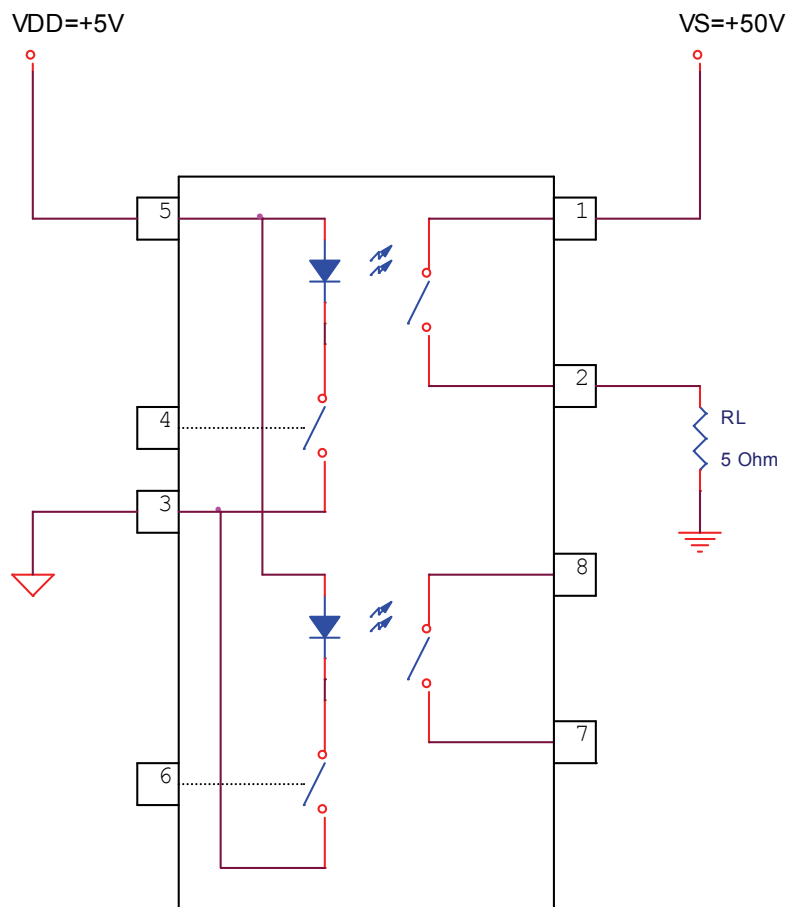

Fig 3. Switching Test Circuit (Only one Channel shown)
- ① Specification is guaranteed by design.
- ② Rise and fall time are controlled internally.
- ③ Inputs protected by $V_{IN} < 1.0V$ and $V_{IN} > 7.0V$.
- ④ Optically coupled Solid State Relays (SSRs) have relatively slow turn on and turn off times. Care must be taken to ensure that transient currents do not cause a violation of SOA. If transient conditions are present, IR HiRel recommends a complete simulation to be performed by the end user to ensure compliance with SOA requirements as specified in the IRHNJ67230 datasheet.
- ⑤ While the SSR design meets the design requirements specified in MIL-PRF-38534, the end user is responsible for product derating as applicable for the application.
- ⑥ Reference Fig. 3 and 4 for Switching Test Circuits and Wave Forms: Output Voltage (V_{OUT}) of Fig 4, Switching Test Waveform is representative of the Output MOSFET and Drain-to-Source.
- ⑦ Input Supply voltage shall not exceed 5.25V @ $T_c \geq 70^\circ C$.
- ⑧ Breakdown voltage (BV_{DSS}) of Output MOSFET @ $-55^\circ C$ shall be derated to 80% of Maximum Rated Voltage.
- ⑨ Total Dose Irradiation with Input Bias: 10mA I_{DD} applied and $V_{DS} = 0$ during Irradiation.
- ⑩ Total Dose Irradiation with Output Bias: 160Volts V_{DS} applied and $I_{DD} = 0$ during Irradiation.
- ⑪ IR HiRel does not currently have a DLA Certified Radiation Hardness Assurance Program.